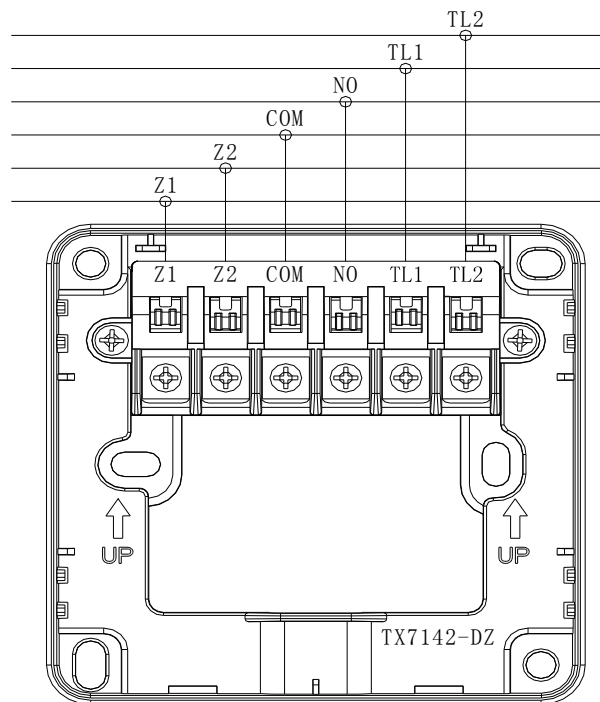

Figure 2
3. Connect the wire in terminal as shown in Figure 2. Verify the device number using handheld programmer then stick on the label before attaching the call point. The sticker labels are available on the control panel.